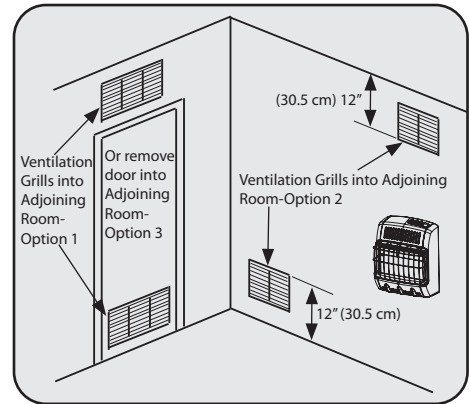

Figure 2
- Rework worksheet, and the space of an adjoining room. If the extra space provides an unconfined space, remove door to adjoining room or add ventilation grills between the rooms. See Ventilation From Inside Building (Fig. 2)
This fresh air would come from an adjoining unconfined space. When ventilation to an adjoining unconfined space, you must provide two permanent openings: one within 12" of the ceiling and one within 12" of the floor on the wall connecting the two spaces (see options 1 & 2 of figure 2). You can also remove door into adjoining room (see option 3, Fig 2). Follow the National Fuel Gas Code NFPA 54/ ANSI Z223.1, Section 5.3, Air for Combustion and Ventilation for required size of ventilation grills or ducts.